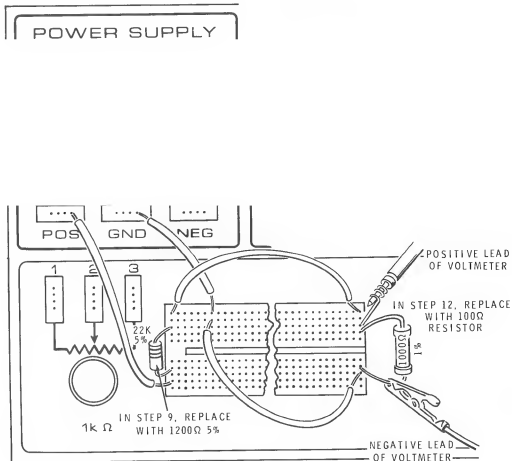

Figure 1-81
7. Using this newly constructed ammeter, break the circuit on the left side of the socket and insert the ammeter as shown in Figure 1-81. The measured current is _____ milliamperes. Is the measured current approximately the same as the current computed in Step 3?
11. As you did in Figure 1-81, insert the makeshift ammeter in series with the 1200 Ω resistor and measure the current. The measured current is _____ milliamperes. Does this reading agree with the computed current found in Step 9? _____. If not, how do you account for the error?